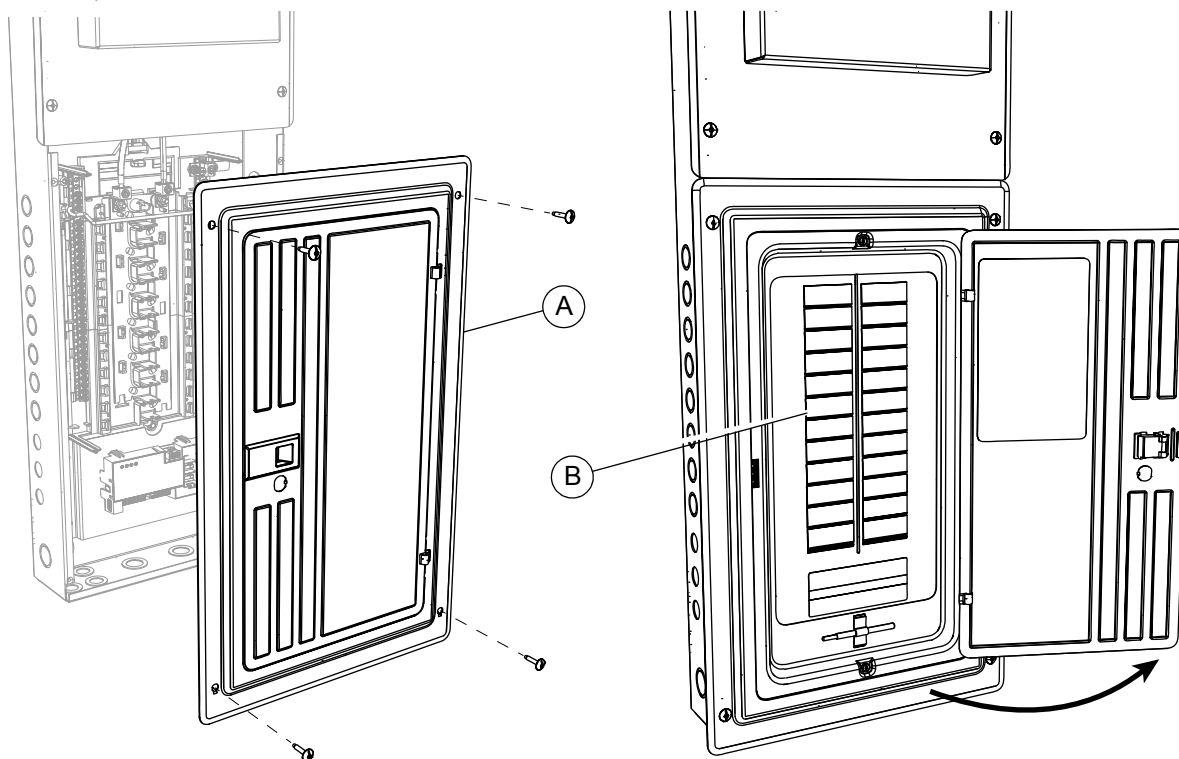

Figure 3-2. Front Panel Assembly and Breaker Knockouts
1. See Figure 3-2. Remove screws from front panel assembly (A).